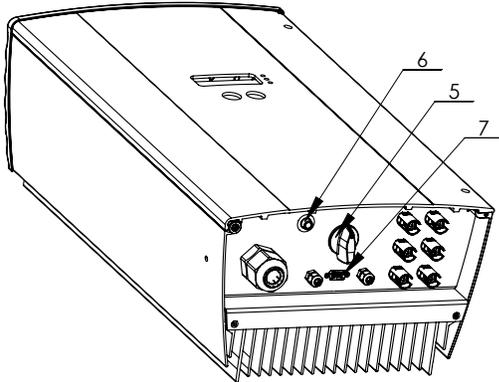

Figure 4.6: **Underside of the Powador**
To disconnect the inverter from the photovoltaic generator, turn the internal DC disconnecter on the underside of the inverter from the ON (1) position to the OFF (0) position (see figure 4.6).
To do this, press the "night start-up" key (see figure 4.6 - (6)) on the underside of the unit for approx. 5 seconds until a display appears.
Operating data can be transmitted to a computer (e.g. notebook) over a galvanically isolated serial interface (see figure 4.6 - (7)) from where it can then be individually processed further using standard spreadsheet software.